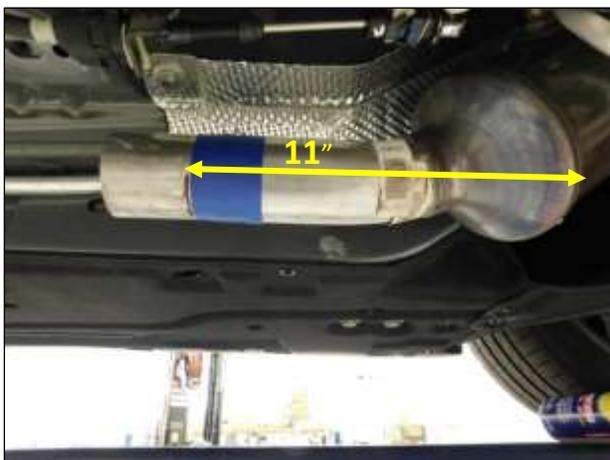

Figure 6
1. Making the cuts to the front pipes after the catalytic converters (**Fig. 6 & 7**).
- Use a reciprocating saw or cut off wheel and cut the exhaust at the edge of the tape (**Fig. 6 & 7**).